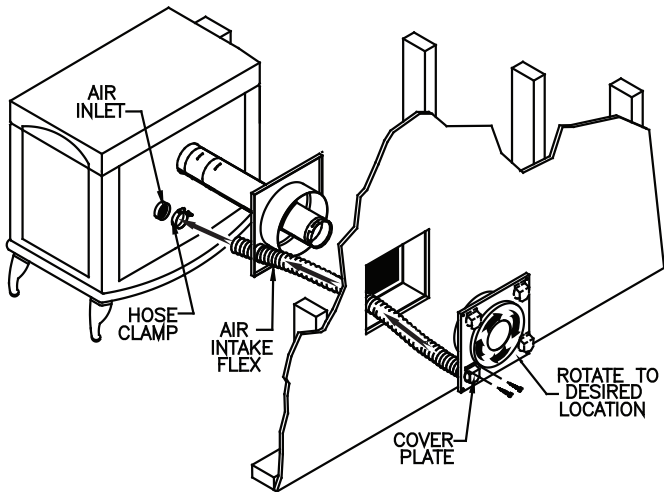

Figure 12
- B.** Cut and frame a square opening in the wall as specified in **Table 1**. Secure Pellet can be installed with the standard Wall Thimble or Wall Thimble Air Intake Kit for through the wall installations. The Wall Thimble Air Intake Kit allows combustion air to be drawn through the framed Thimble opening, eliminating the need to cut another opening in wall. The small flex provided with this kit allows connection to the Pellet Stove combustion air inlet. Note that when installing the Wall Thimble Air Intake Kit, the pipe will not be centered within the framed opening. Loosely assemble both halves of the Wall Thimble onto Pipe Section. Connect the flexible hose with clamp to the exterior half of the Wall Thimble. Guide the flex through the opening in black interior half of Wall Thimble, gently pull the flex towards appliance (**Figure 12**), and if necessary trim